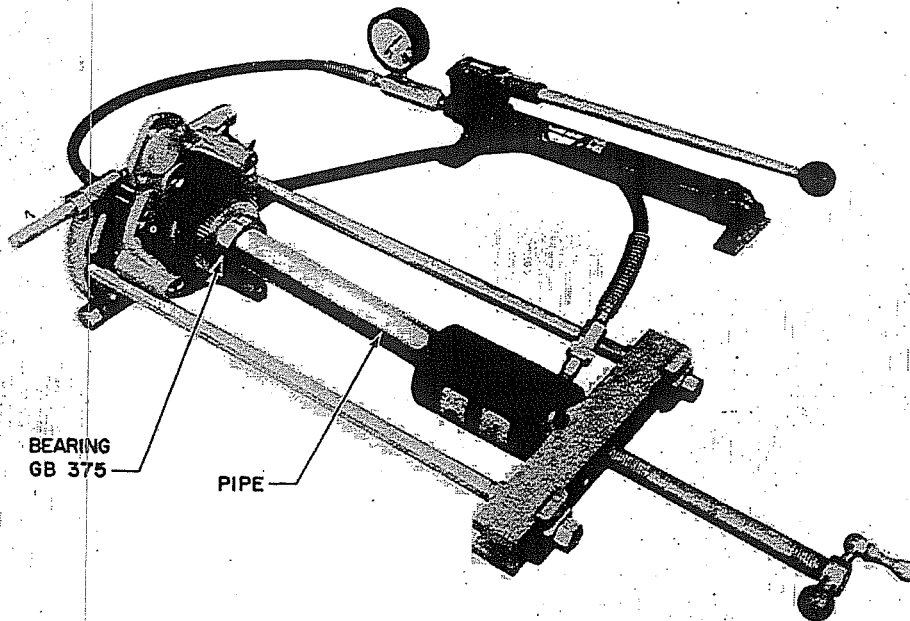

Figure 36. 1 to 1 Shaft, Installation of Bearing GB375
- V. Secure the bearing pulling attachment behind Spur Gear GB368. Use pipe specified in step S to press Bearing GB375 onto Shaft GB381 (figure 36). The shaft should be cleaned and lubricated prior to assembly.